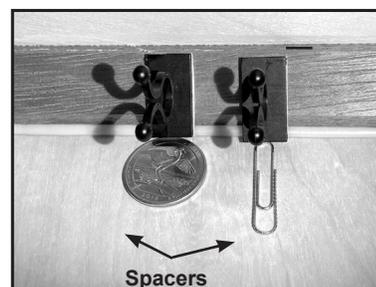

Figure 4 – Harness Clips and Spacers
- If the clip location is close to the soundboard, ensure that it doesn't touch the soundboard by placing a spacer on the soundboard to raise the clip slightly while you are attaching it. A paperclip, thin coin, or 3 business cards will provide enough clearance to prevent unwanted vibration (see figure 4). After the clip is securely in place, remove the spacer.
5. If needed, use a coin or paperclip as a spacer to hold the bottom edge of the clip up off of the soundboard during installation (see figure 4). This is to prevent the clip from touching the soundboard and causing unwanted vibration.